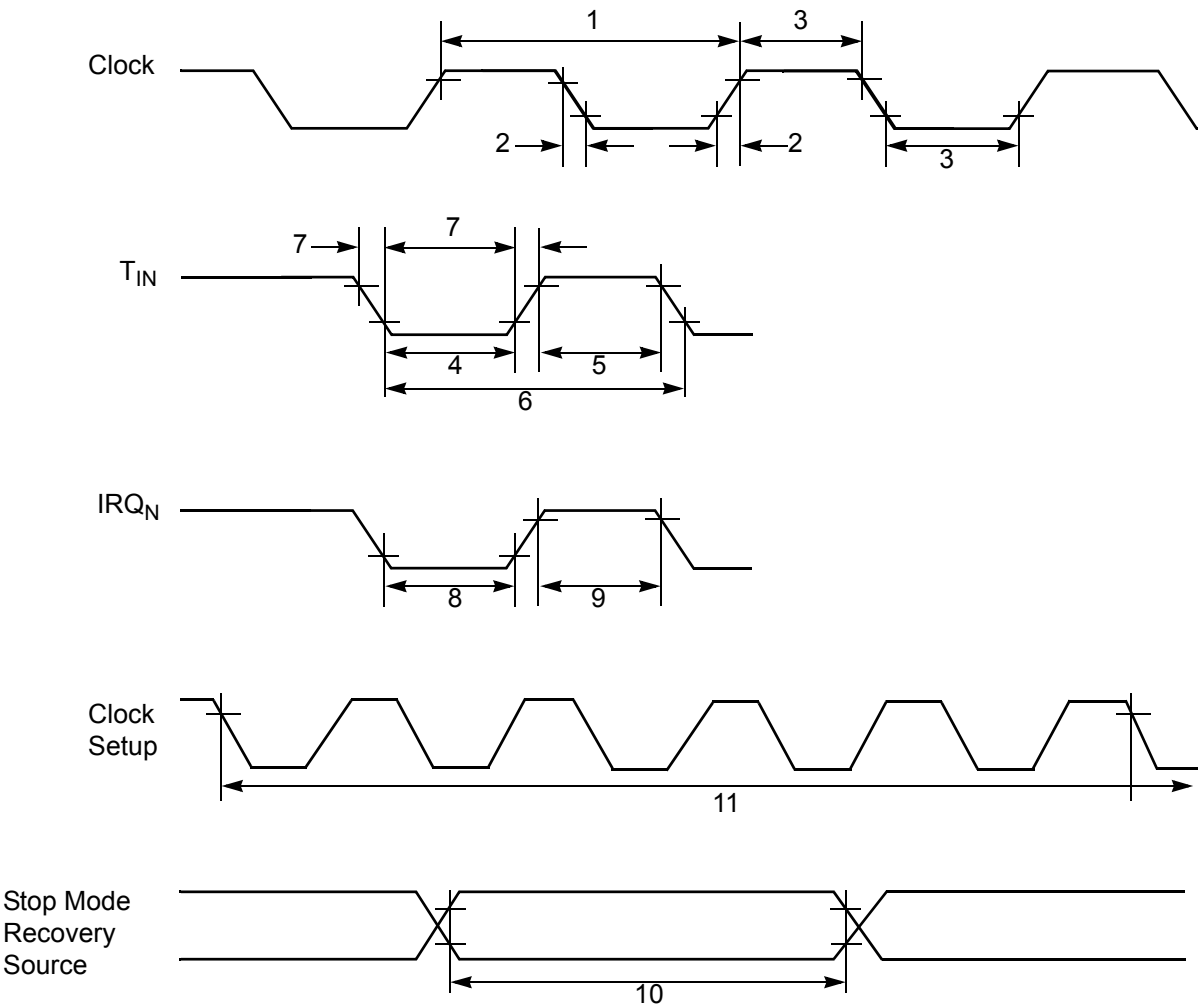

Figure 6. AC Timing Diagram
Figure 6 and Table 8 describe the Alternating Current (AC) characteristics.